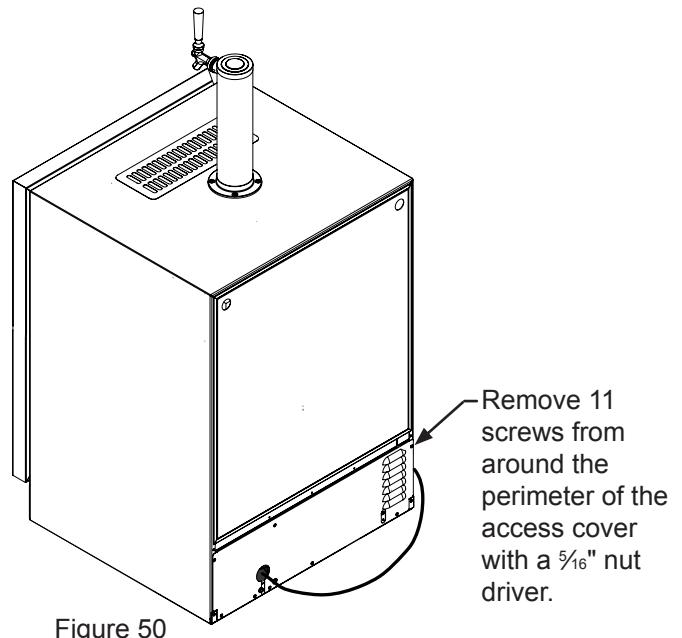

Figure 50
14. Remove the rear access cover, (see Figure 50), and use a brush and vacuum to clean dirt and debris from the machine compartment.